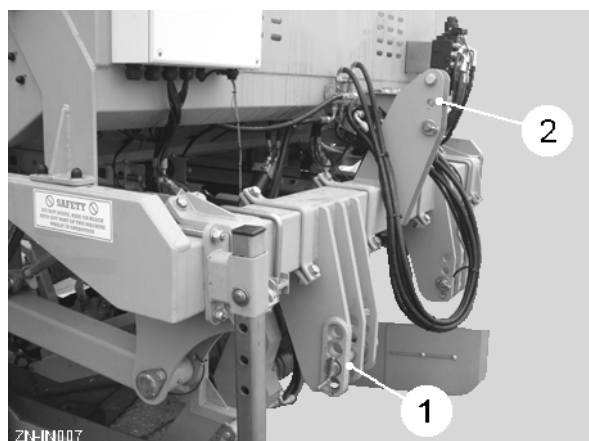

Fig 1
Reverse the tractor up to the planter and engage the 3-point linkage lower arms on the bottom lift pins (item 1, fig 1). The arm stabilisers must be set to ensure the planter runs central to the tractor. Fit the top link in one of the holes (item 2, fig 1) and adjust to level the planter.